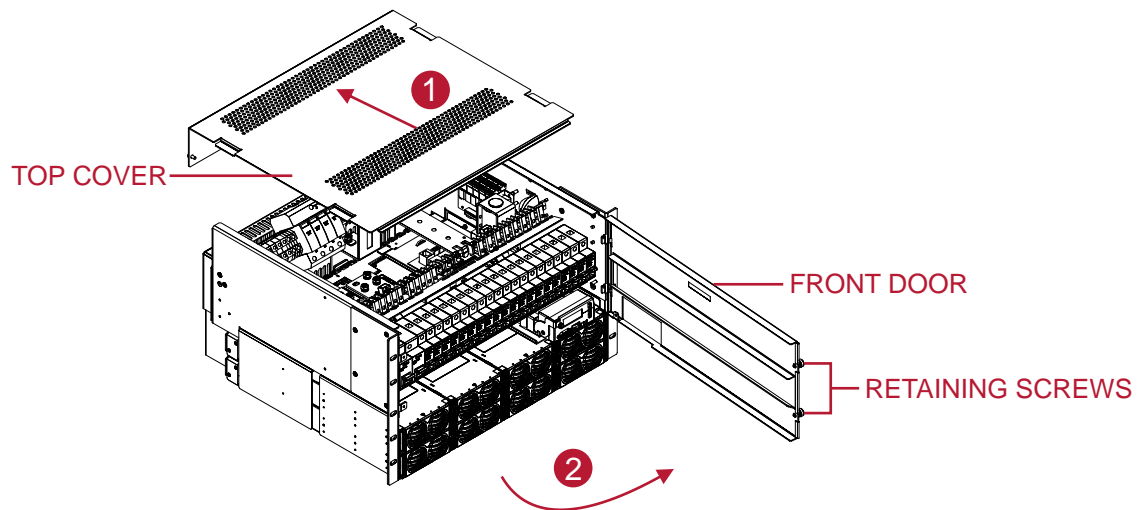

Figure 4-2 Removing the Top Cover
1. Push the top cover backwards to remove it (Figure 4-2, #1)
2. Unscrew the retaining screws on the left side of the front door and open the front door (Figure 4-2, #2).